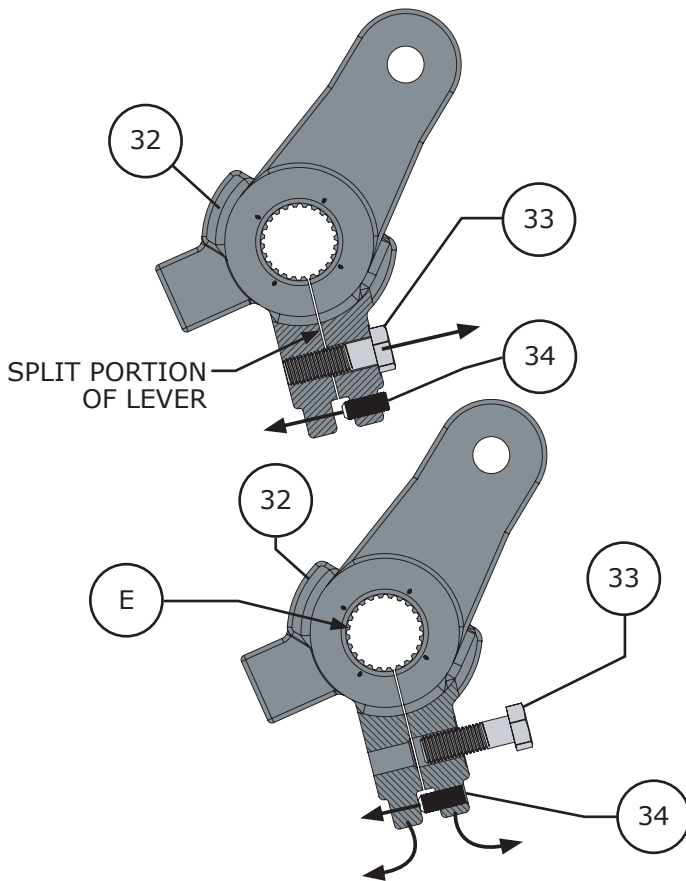

Figure 7 Step 12 Lever Clamp Loosening
- 13 Install the lever onto the valve shaft (Key V). Refer to Figures 7, 8, and 14 and appropriate valve instruction manual for proper lever orientation.